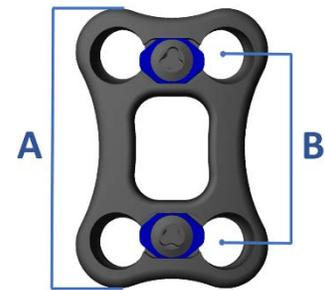

Figure 4
Plate lengths are labeled “End to End” (A). Subtract 8mm from labeled plate length to determine “Hole to Hole” (B) distance (**Figure 4**).